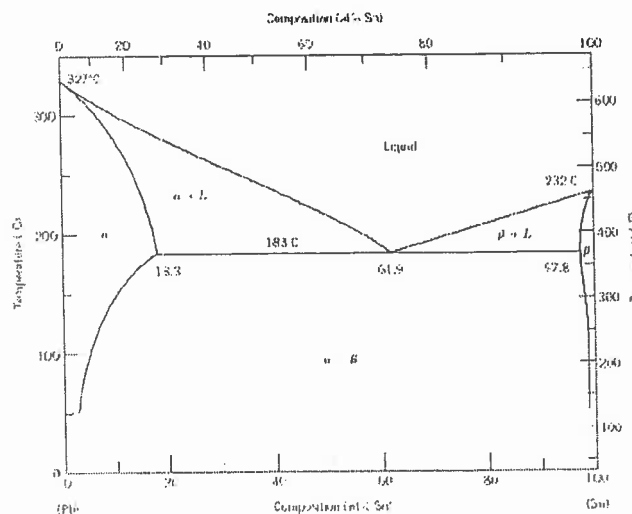

Figure 2 – Pb-Sn phase diagram.
- d) Using the Sn-Pb phase diagram shown in Figure 2. Calculate the amount of liquid and solid ( $\alpha$  phase) present at 200°C for a Sn-30%Pb alloy. What is the composition (%Pb) of the liquid phase (7 marks)